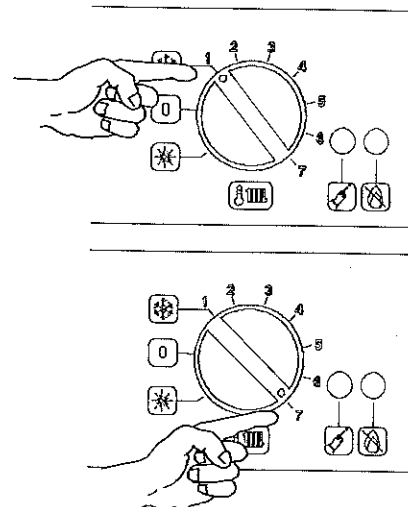

Figure 5.3
- 1 The output temperature of c.h. water is adjustable from a minimum of about 100 °F to a maximum of about 189 °F (Figure 5.3), by turning the knob B